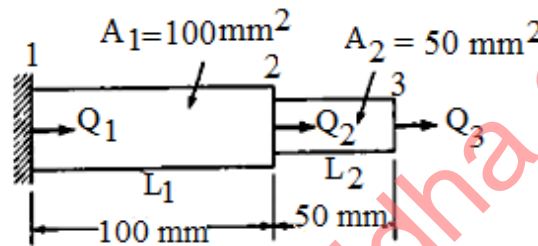

Figure 5
10. Determine the Eigen values and Eigen vectors for the stepped bar shown in the figure 5. Given $E = 100 \text{ GPa}$ and Specific weight $= 0.025 \text{ kg/mm}^3$. [10]